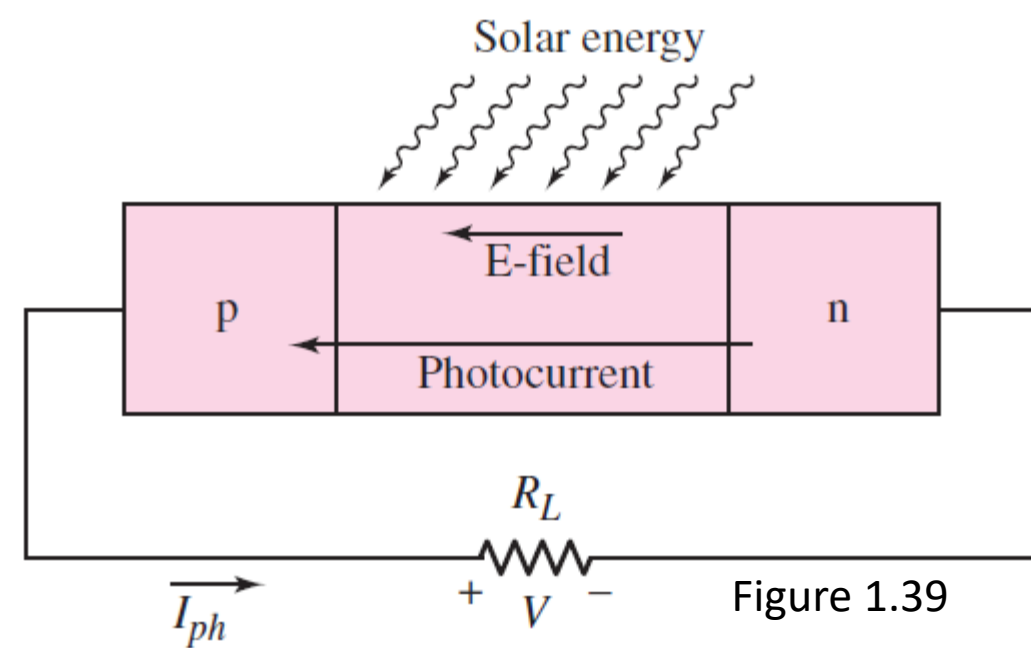

Figure 1.39
- The pn junction, which **converts solar energy** into **electrical energy**, is connected to a load as indicated in Figure 1.39.